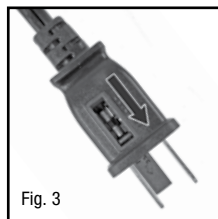

Fig. 3
- You can gain access to the blown fuse by sliding open the door found on the side of the plug. Slide the door outward until the blown fuse is fully visible (Fig. 3).
- Align the 3 screw holes on bottom of pedestal with the 3 holes in the base such that the power cord holder is at the rear of the unit. (Fig. 3)